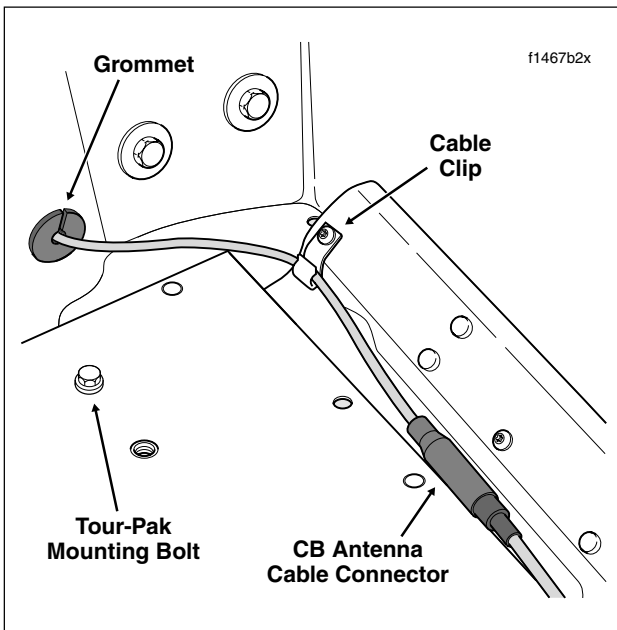

Figure 2-143. Disconnect CB Antenna Cable Connector
9. Moving to right side of vehicle, disconnect 1-place CB antenna cable connector. Release cable from two clips at bottom of Tour-Pak. See Figure 2-143.
8. Mate pin and socket halves of 1-place CB antenna cable connector. Capture cable in two clips at bottom of Tour-Pak. See Figure 2-143.